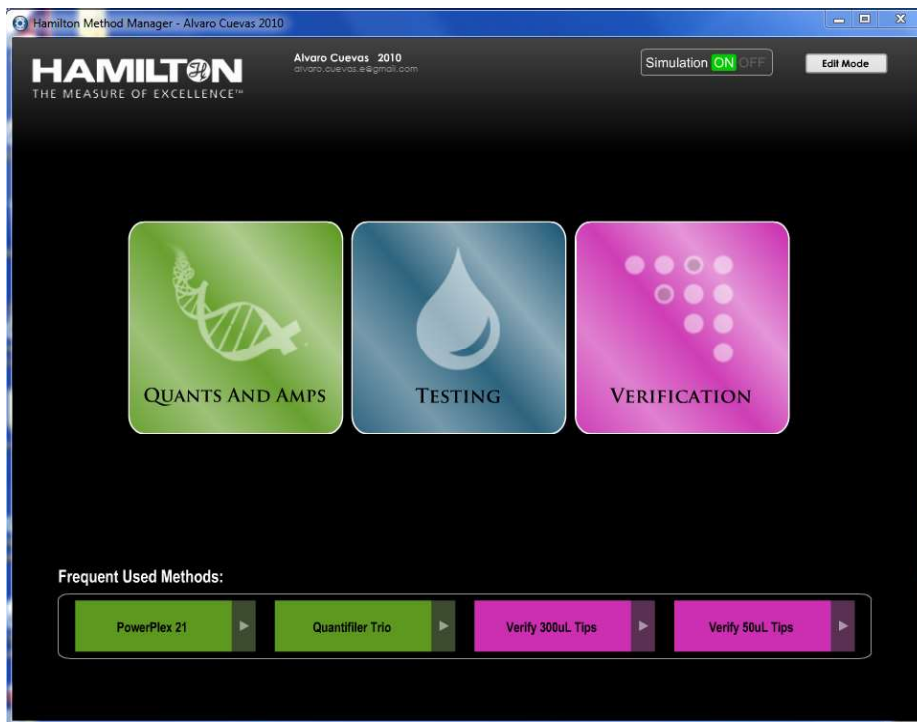

Figure 3 Method Manager Home Page.
7. Select the 'Quants and Amps' button on the home page (Figure 3)